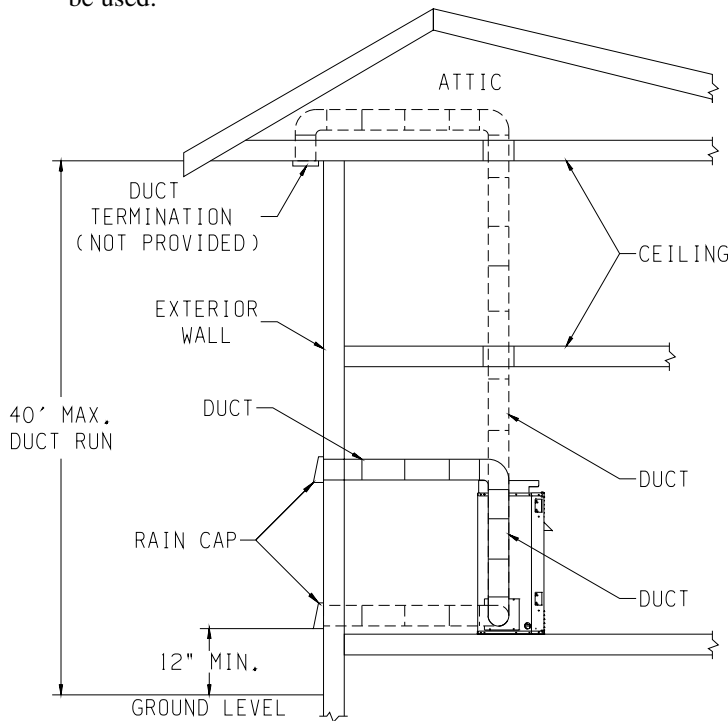

Figure 4 Example of Installation
7. Attach cover plate to support legs with (4) 10 x 1/2" provided screws. The support legs are on the left side, to the rear, in the interior bottom of fireplace.
9. Refer to Figure 4 for options available for installation of 6" diameter duct. The duct run can be a maximum length of 40 feet. Insulated duct is recommended when ducting through a heated space. Note: 6" C vent or 6" flex vent can be used.